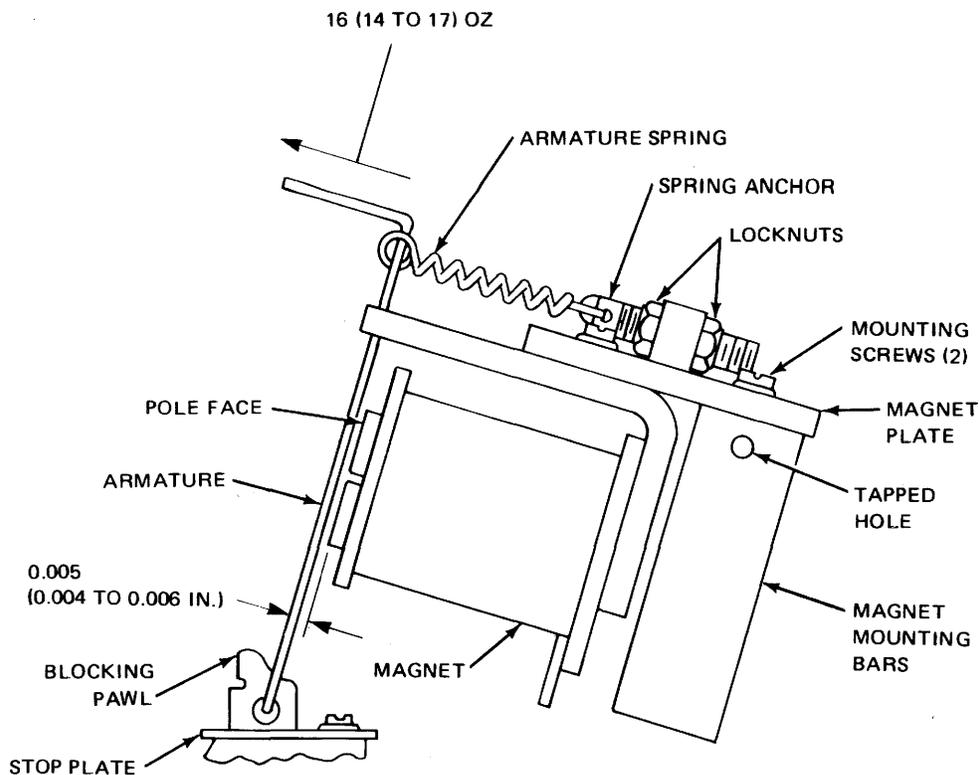

Figure 6-34. Code and Feed Level Magnet Assembly.
6-30. Punch Armature Springs and Magnet Plate Adjustment. To adjust punch magnet plates and armature springs, perform normal turnoff procedure (paragraph 6-24, step 2.), see figure 6-34, and proceed as follows:
a. Position punch bail in highest position (see figure 6-34).
b. Attach scale to armature (see figure 6-34).
a. Insert armature clip to yoke located under the magnet plate (see figure 6-34).